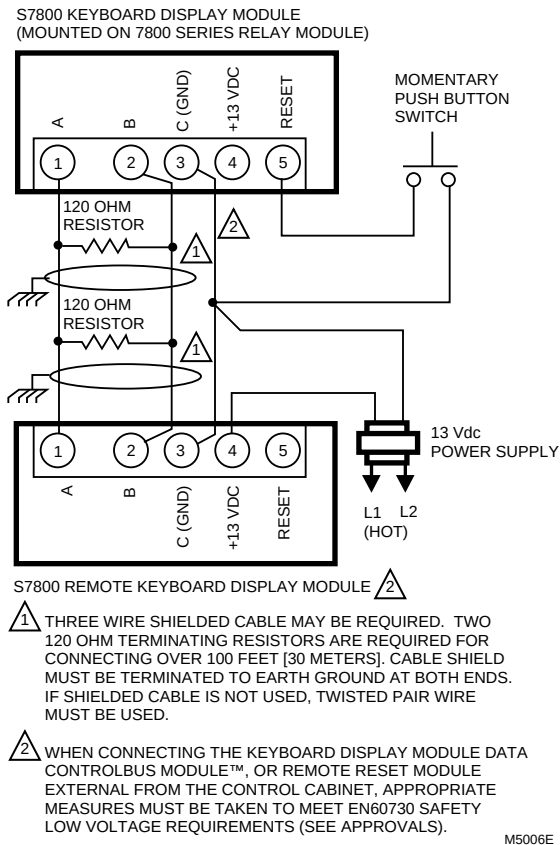

Fig. 5. Wiring multiple Keyboard Display Modules.
- b. For proper remote wiring of the Keyboard Display Module, refer to Fig. 5 or 6 or to the Specifications for the Keyboard Display Module (65-0166), DATA CONTROLBUS MODULE™ (65-0091) or Extension Cable Assembly (65-0131).
3. All wiring must comply with all applicable electrical codes, ordinances and regulations. The Keyboard Display Module, DATA CONTROLBUS MODULE™ (for remote mounting) or Remote Reset Module (for remote reset) must be wired in a daisy chain configuration, (1(a)-1(a), 2(b)-2(b), 3(c)-3(c)). The order of interconnection of all the devices listed above is not important. Be aware that modules on the closest and farthest end of the daisy chain configuration string require a 120 ohm (1/4 watt minimum) resistor termination across terminals 1 and 2 of the electrical connectors, for connections over 30 meters, see Fig. 5 and 6.